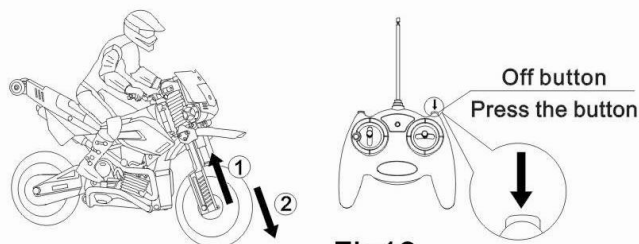

Fig12
When the body in Straight line moving , (body plumb with the ground as possible),while release the forward handle press bouncing button then release, when the body straight up and then press the acceleration button, then cars will be driving straight, When found the body slope, press brake button return to normal driving.(Figure 12)
- (1)Front wheel bouncing power more fierce when press jumping button, so do not be facing the front wheel to human facial or eye, in order to avoid injuries. (Figure 12)
- (2)When a moving body in an upright body, if found to tilt to the next by "brake button" return to normal driving status to prevent the body falling.